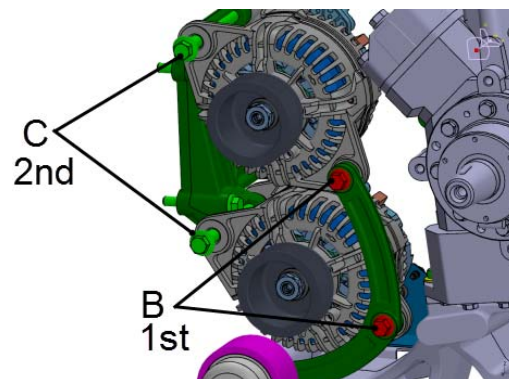

FIGURE 17
24. In order to assure proper installation, it is important to tighten the alternator mounting bolts in proper sequence (**FIGURE 17**).